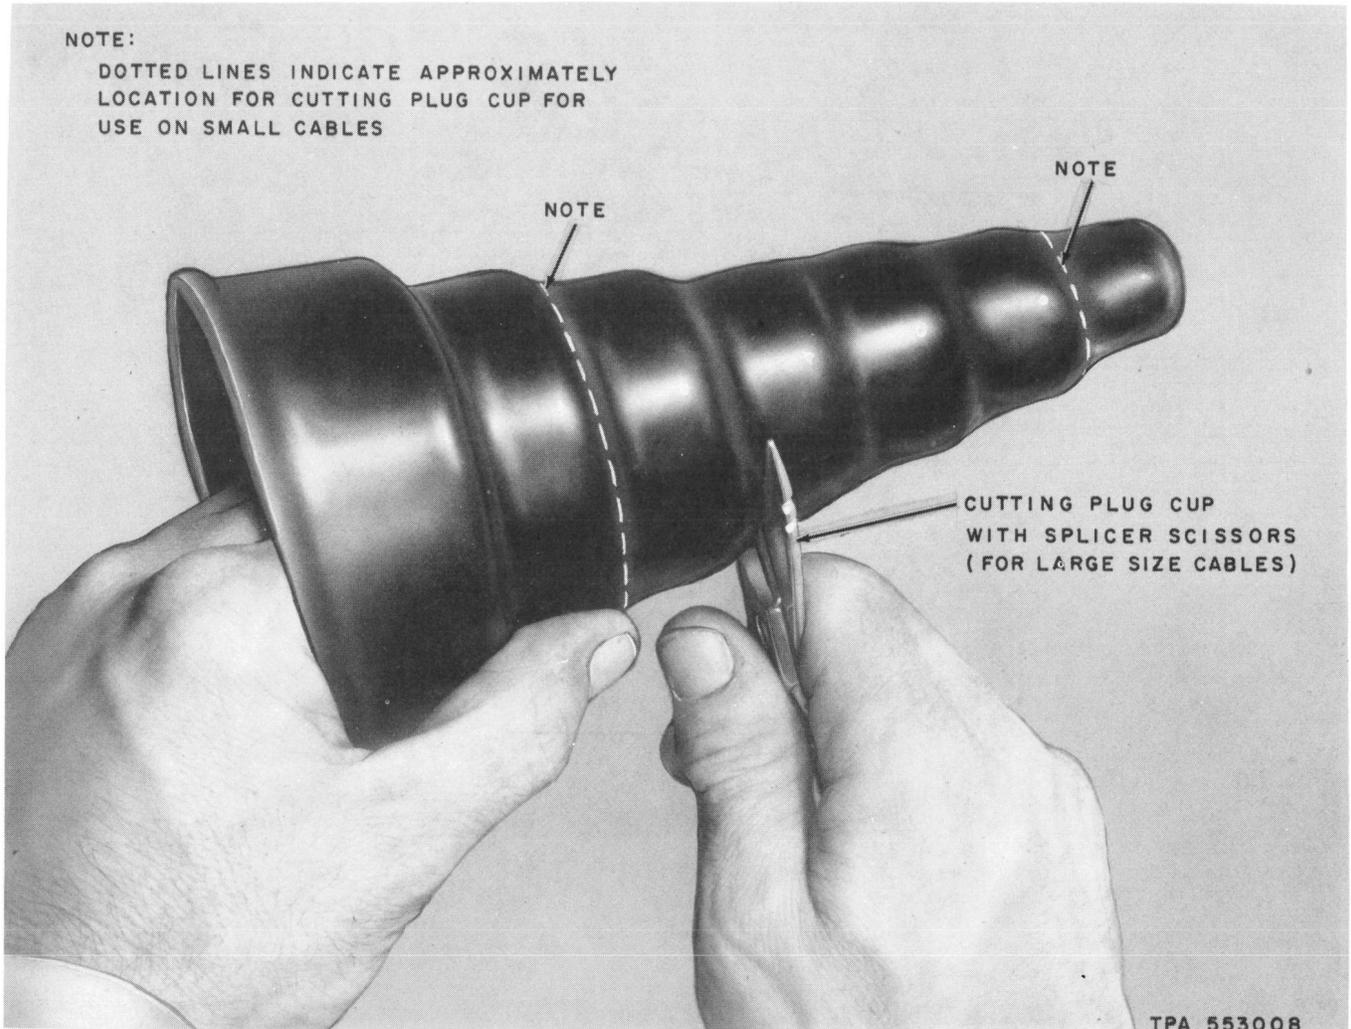

Fig. 8—Cutting Plug Cup
5.02 Cut the plug cup (Fig. 8) to fit cable, then slide the cup over the cable as shown in Fig. 9. Push the cup down as far as possible on the cable sheath to provide space for cable sheath
preparation (Fig. 10). Place a plug cup on each cable. For small cables cut plug at both ends to reduce size (Fig. 8).